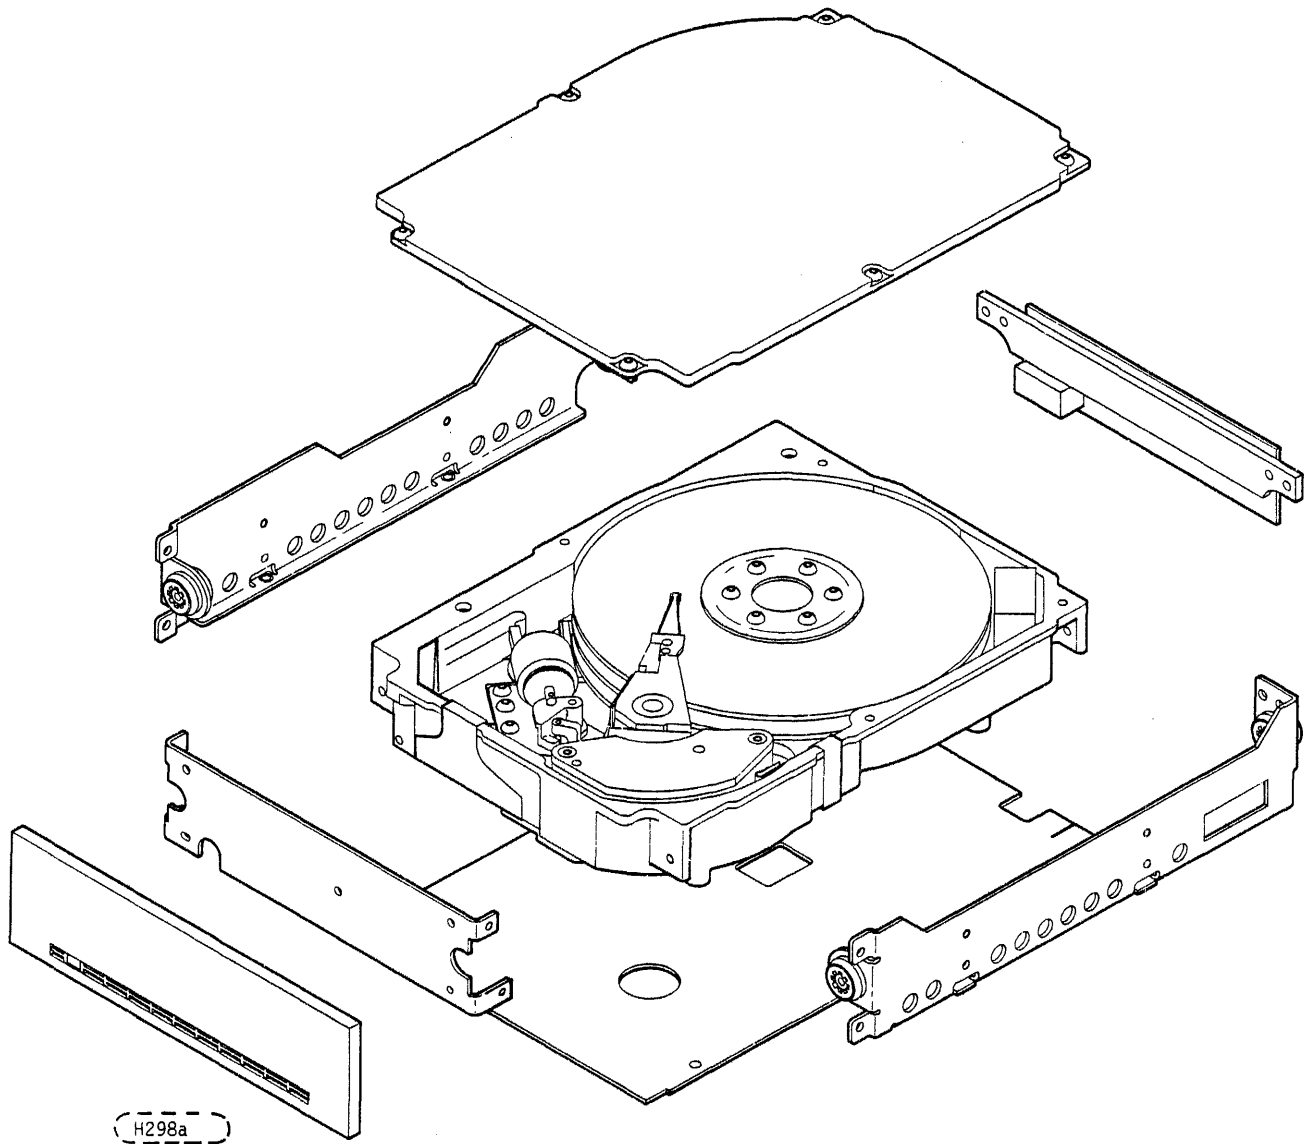

FIGURE 2. MODEL 94211 WREN III HH
Refer to Figure 2 for an exploded view of the WREN III HH. NEVER disassemble the WREN HDA. This exploded view is for information only. Servicing items in the sealed environmental enclosure (heads, media, actuator, etc.) requires special facilities. The printed circuit boards and hardware external to the sealed area may be replaced without special facilities.
- Front panel - See Figure 2
- Front Panel Kit - See Figure 2